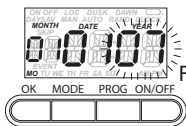

Fig. 3
4. Turn the knob to set the desired year and press **OK**. (Fig. 3)
12. Turn the knob to change the flashing **01** to the required new week (01-02-03-04-L) for the autumn adjustment, then press **OK**. **LOC** shows at top of display. (Fig. 3)